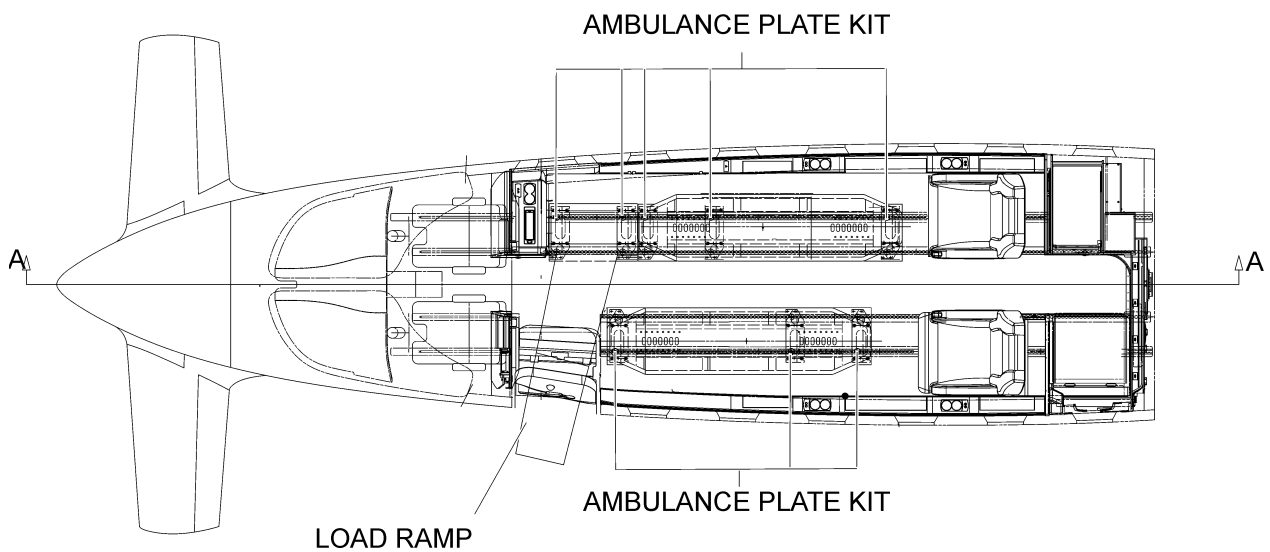

Fig. 20 - Corporate 3 A2 Configuration
- U. The Corporate 3 A2 passenger compartment (Ref. to Fig. 20).